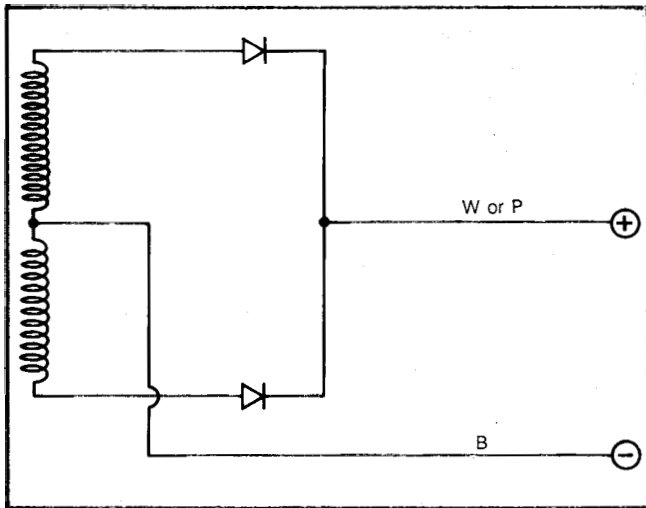

Figure 150
10. If the diode assembly has been disconnected it should be reinstalled at this time. On some units the assembly is soldered in place, others use connectors. There are three wires connected to each diode assembly, two that supply AC power to the diodes and one positive output wire. The negative output wire comes directly from the center tap of the winding that supplies power for the DC circuit. The positive output wire is white on T1200 through T2500 and pink on the T3000. The remaining two wires are connected to the anode (positive) ends of the diodes. See Figure 150.